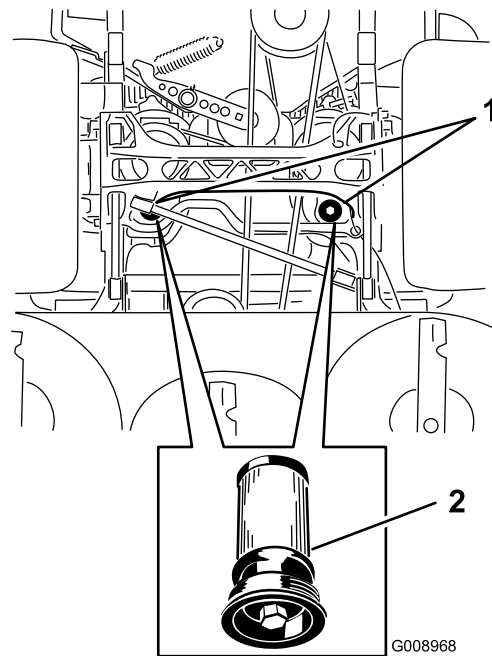

Figure 89
6. Apply a thin coat of hydraulic oil to the rubber gasket on the replacement filter (Figure 89).
5. Place a drain pan under the filter, remove the old filter and wipe the surface clean (Figure 89).